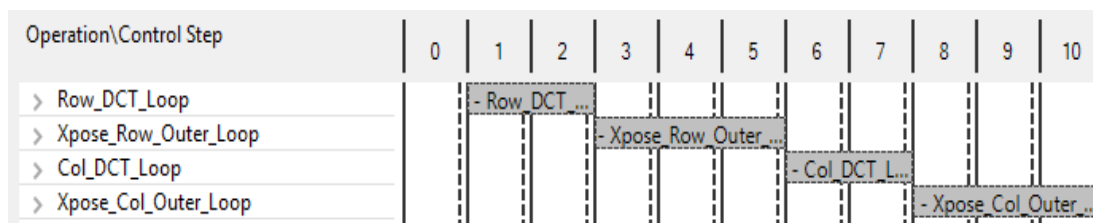

Figure 6-10: DCT_2D Performance View
6. In the Module Hierarchy pane, click the function **dct_2d** to navigate into the view for this function (Figure 6-10).
In the Performance Profile you can see that the latency of all the loops has been substantially reduced (Row_DCT_Loop and Col_DCT_loop have been approximately halved from the earlier report in Figure 6-10). However, the majority of the latency is still due to these two loops, each of which calls the `dct_1d` block.